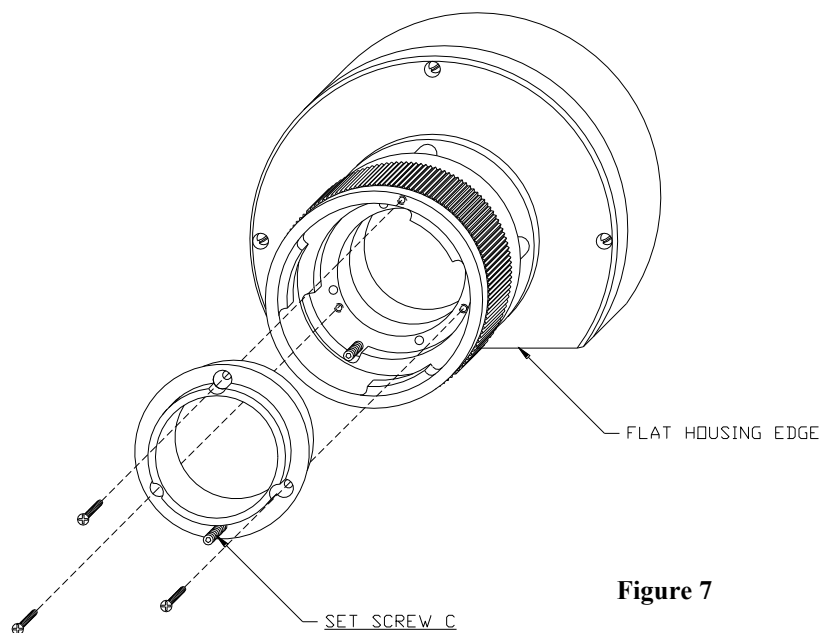

Figure 7
Attach inner ring , using (3) 4-40 screws. Align the set screw C of the inner ring and the center of flat housing edge (see Figure7, 8).